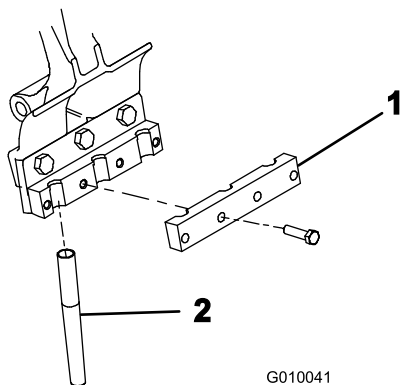

Figure 24
4. Loosely install a tine clamp to each tine holder with 4 bolts (3/8 x 1-1/2 inches) (Figure 24). Do not tighten the bolts.